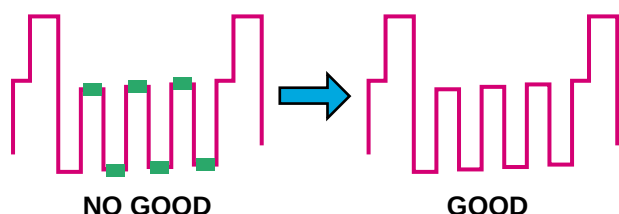

Fig. 4-3
- Adjust VR101 and L102 by turns so that the 3.58 MHz component becomes minimum as shown in Fig. 4-3.